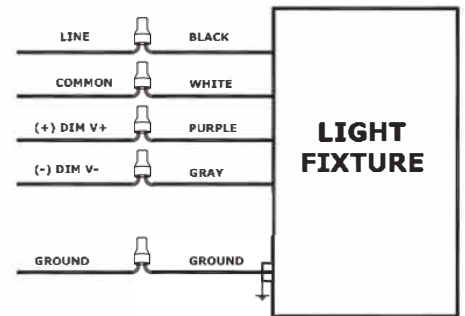

Fig 3
3. Remove and reverse the cable gland located at one end of the enclosure. Insert the flexible power cable (not included) through the cable gland allowing for sufficient length of stripped cable inside the housing and tighten the gland. "Electrical Connection". See Fig 3.